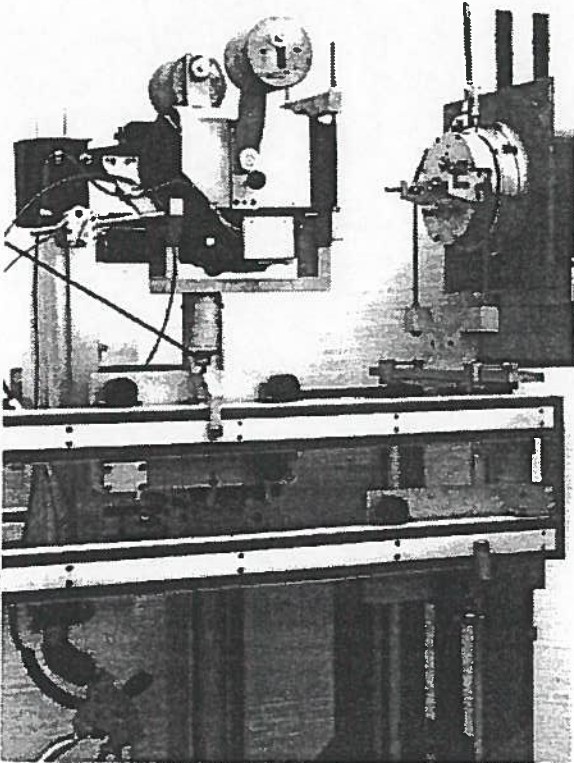

FIG. 29
9. Raise the master arm with the master jack until it is clear of the mounting brackets and roll it back away from the seal tube (Fig. 29). Lock the longitudinal locks on the master jack.